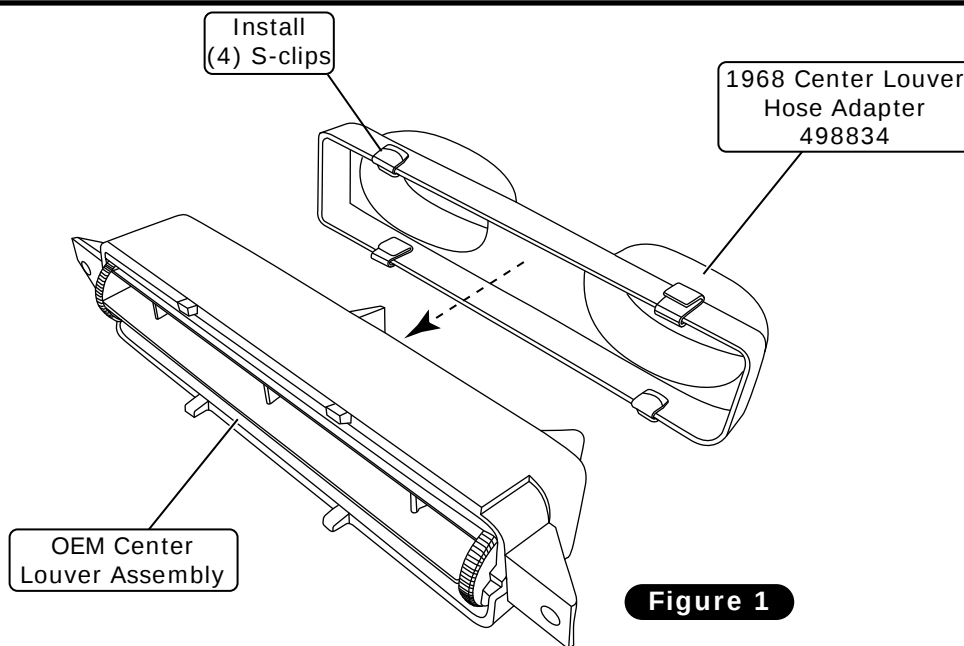

Figure 1
2. Install the center louver hose adapter outside the OEM center louver assembly as shown in Figure 1, below.